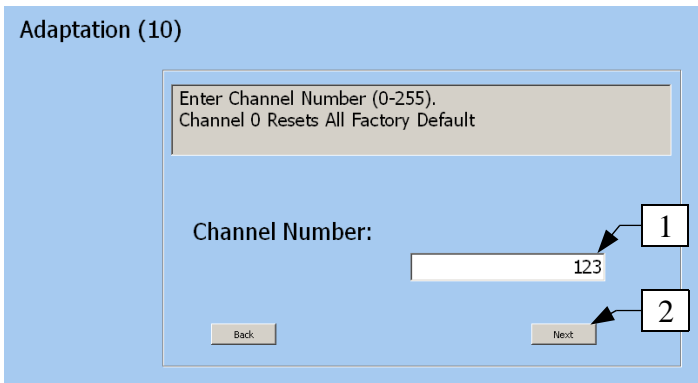

Figure 6.29
An example of the procedure of changing adaptation values can be found on following pictures. On the Figure 6.29 you can see a window used for changing the channel number (1). After pressing Next button (2), a request for current channel number is send. On the Figure 3.30 you can see a window with the old adaptation value (1) as well as the one with the new one (2). Press the Save button (3) if you have set the desired value, and you will be asked for final confirmation of the change (6.31), and if you do so a window with result appears (6.32). If you press the Back button during changing the function is aborted with no changes.